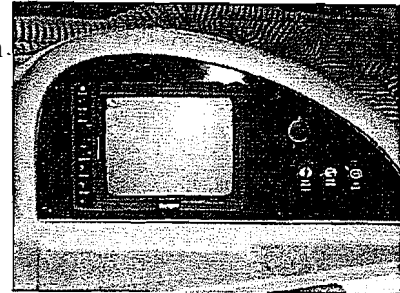

Figure 1 Monitor in IP & in dash pod
3. Remove the screws from the IP panel securing monitor to dash pod (Figure 1). Use care not to scratch or crack panel.